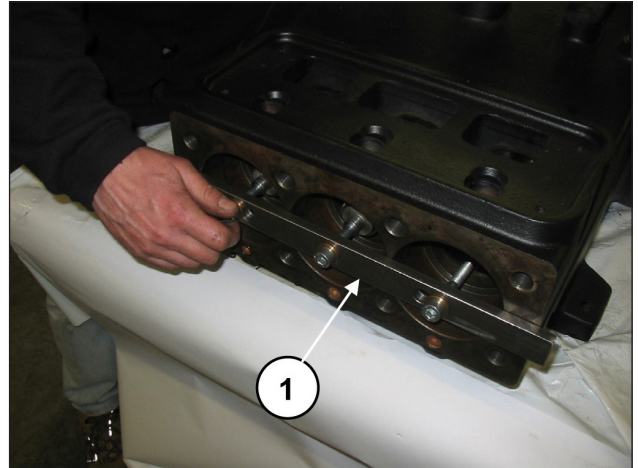

Fig. 25
Advance the half supports in the direction of the hydraulic part to allow the shaft to come out. To facilitate this operation, use special tool (code 27566200), (pos. ①, Fig. 25).